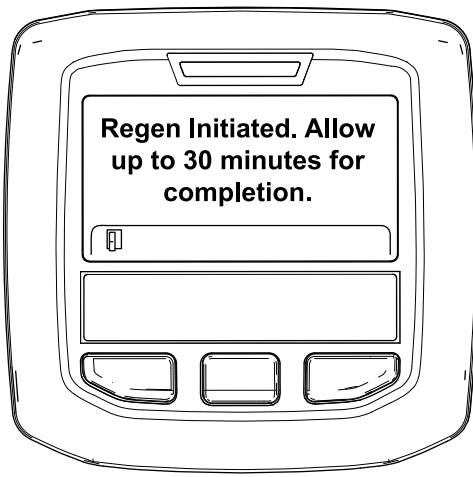

Figure 56
- If the regeneration is allowed, the "Regen Initiated. Allow up to 30 minutes for completion" message displays in the InfoCenter, wait for the machine to complete the parked regeneration process (Figure 56).